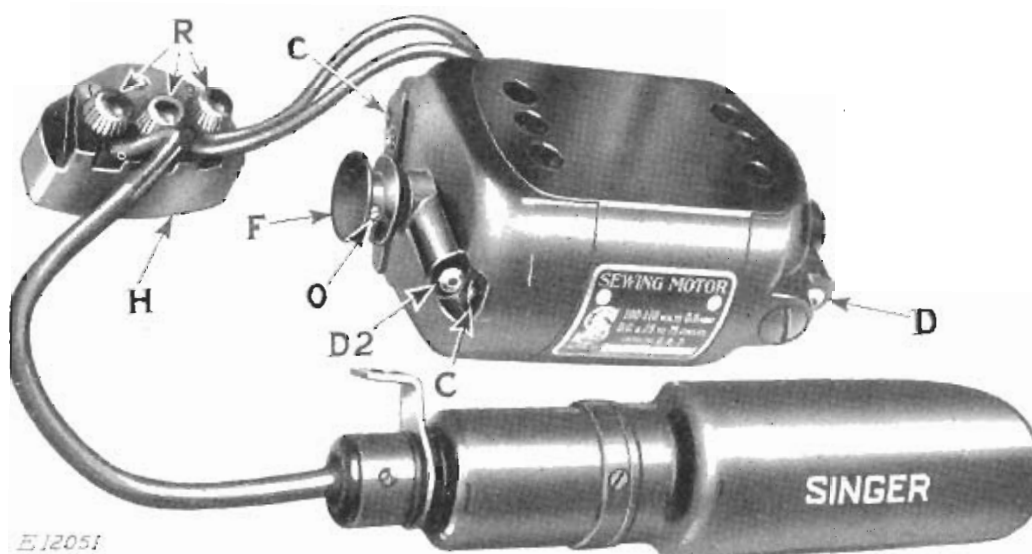
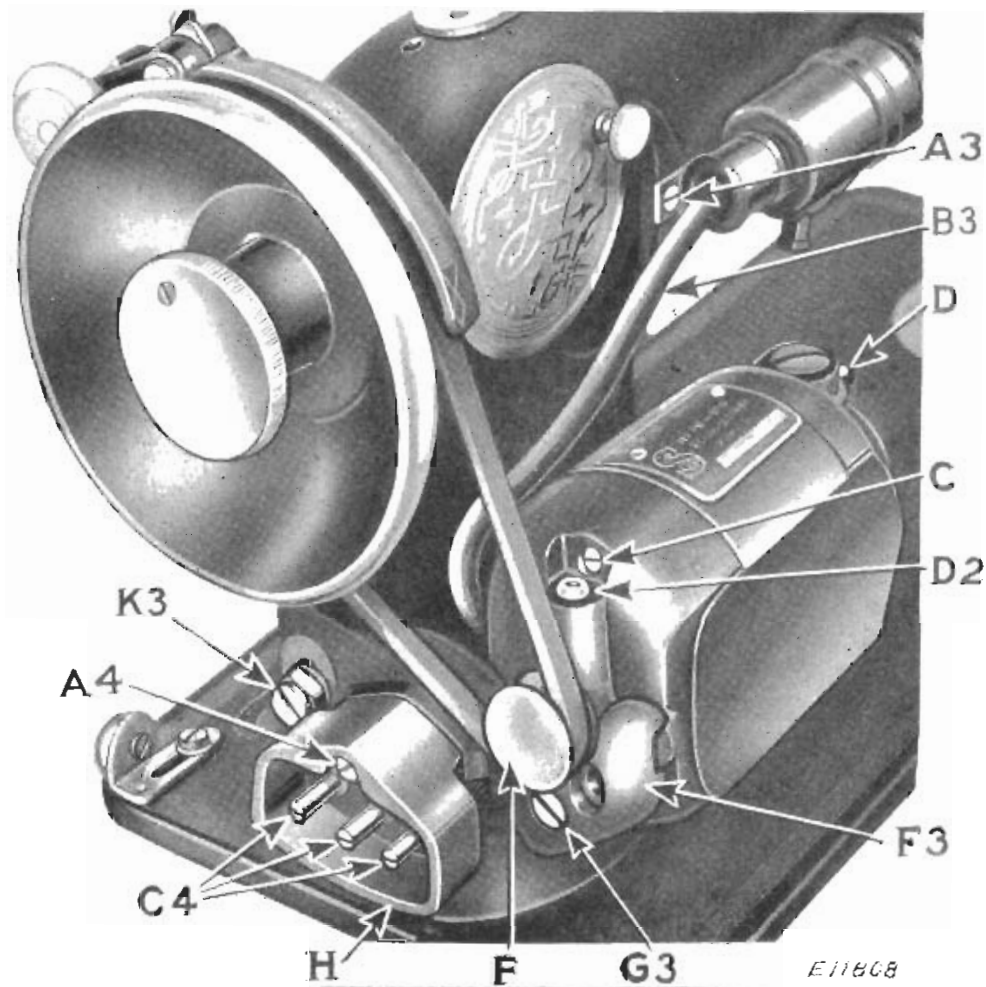
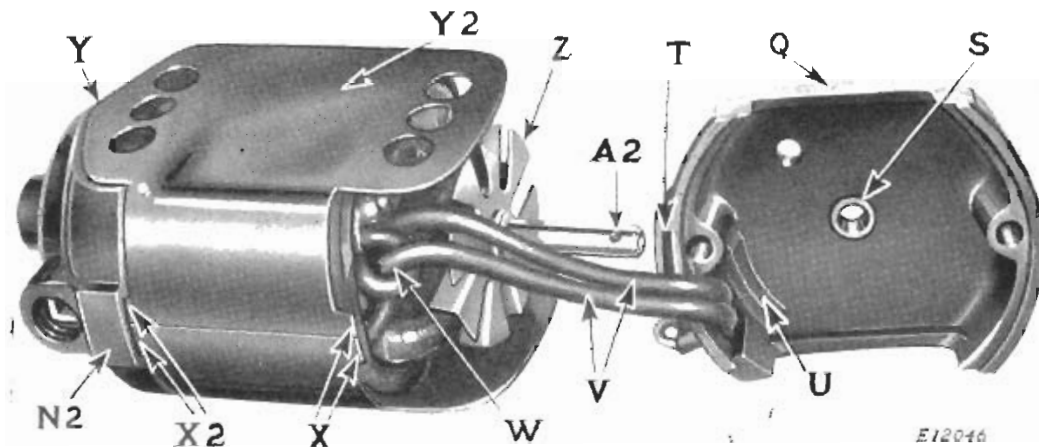
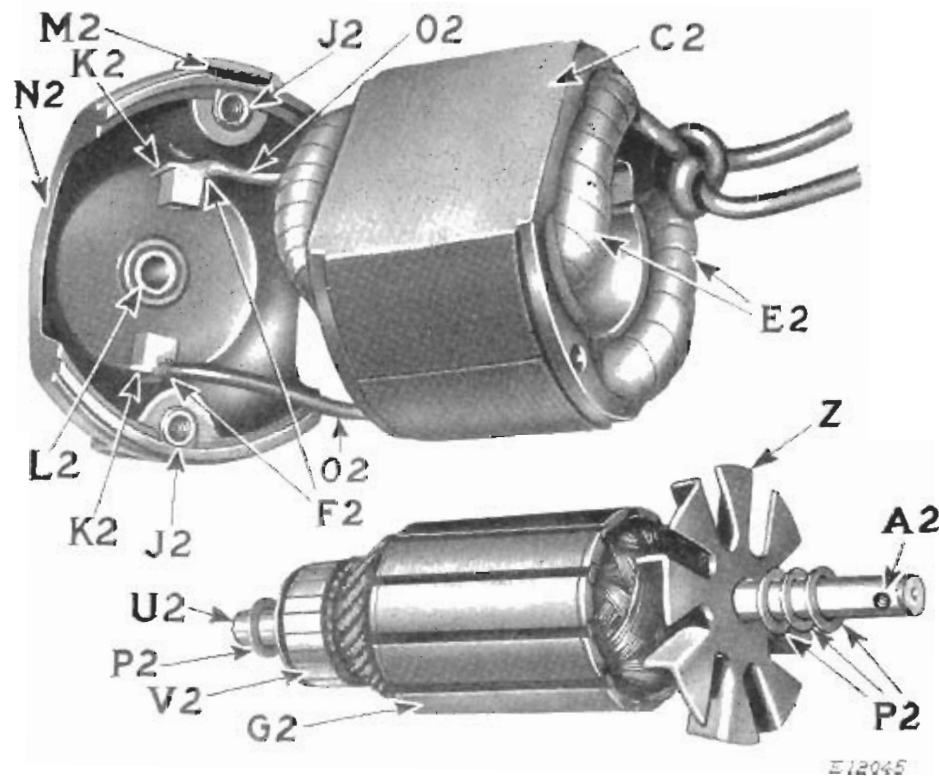

FIG. 20. MOTOR THREE-PIN TERMINAL AND SINGERLIGHT
FIG. 22. MOTOR SINGERLIGHT AND THREE-PIN TERMINAL IN PLACE ON MACHINE 201-3
FIG. 23. MOTOR --PULLEY END COVER-REMOVED
FIG. 24. MOTOR—PULLEY END COVER, COMMUTATOR END COVER AND ARMATURE REMOVED
The motor, three-pin terminal and Singerlight may be removed as a unit, as shown by Fig. 20, as a matter of convenience when
inspecting electrical connections. Take out screw (A4, Fig. 22) and remove the three-pin terminal from its seat on the motor bracket. Disconnect the controller leads from terminals Nos. 1 and 2, and turn aside the arm side cover to expose screw (A3, Fig. 22) which fastens the Singerlight to the sewing machine. Remove screw (A3, Fig. 22) and Singerlight.
Take out screw (G3, Fig. 22) which fastens the motor to its bracket (F3, Fig. 22) and remove the motor.
Remove Pulley. Take out screw (O, Fig. 20) and remove the pulley (F, Fig. 20) from the armature shaft.
Remove Pulley End Cover—Machine 201-3. Remove the two through screws (C, Figs. 20 and 22) —only the upper of the
two screws (C) is shown in Fig. 22, the lower one being concealed by the motor bracket. Carefully take the pulley end cover (Q, Fig. 23) off the field core (C2, Fig. 24), drawing it to the ends of the motor leads (V) as shown in Fig. 23. **Do not pry it off, as such action would ruin this Bakelite cover.**
Remove Brushes—Machine 201-3. Take out the two screw caps (Z2, Fig. 25). When the screw caps are removed, the brush springs may protrude from the screw holes and the brushes can then be easily withdrawn. In case the brushes stick in the brush tubes, they can be conveniently removed after removal of the armature (G2, Fig. 24). See "Remove Armature" following. It is advisable to mark the brushes at (B1 and B2, Fig. 25) to insure their being replaced in the same relative position as before removal.
If the wiring is not damaged, clean the commutator (V2, Fig. 24) with a dry, clean cloth before assembling the motor. If it is impossible to get the commutator bright by this means, use an ordinary rubber eraser. **Never use anything else on a small motor commutator.**
Remove Field Core Shield—Machine 201-3. With the pulley end cover removed, the field core shield (Y2, Fig. 23) is removed from the pulley end of the motor.
Fig. 24). With the pulley end cover, armature, core shield and brushes removed, the commutator end cover (N2) should come off very easily. An uncontrolled strong pull or jerk would strain or break the field leads soldered connections (F2) at the brush tubes.
Inspect Wire Connections to Brush Tubes—Machine 201-3. Examine both field lead connections (F2, Fig. 24) at brush tubes. If there are any loose strands of wire, they should be cut off. Make certain that the field leads (O2, Fig. 24) are firmly attached
(clamped and soldered) to the brush tube terminals (K2, Fig. 24) and that the terminals (K2) are firmly soldered to the brush tubes as shown in Fig. 24.
Replace Commutator End Cover. Put the commutator end cover (N2, Fig. 24) in place on the field core (C2, Fig. 24). To make sure that the field leads (O2, Fig. 24) are safely positioned after the commutator end cover is in place on the field core, observe the field leads from the pulley end of the motor with pulley end cover (Q, Fig. 23) and armature (G2, Fig. 24) removed. If the wires are not properly placed (to avoid contact with the armature or commutator) they can be reached through the field coils (E2, Fig. 24) with pulley end cover and armature removed.
Replace Field Core Shield—Machine 201-3. Put the shield (Y2, Fig. 23) on the field core (C2, Fig. 24) with peaked end (Y) of the shield toward commutator end cover (N2) and with the two lugs (X2, Fig. 23) in the slot (M2, Fig. 24) in the commutator end cover (N2).
Replace Armature—Machine 201-3. When the armature shaft was withdrawn from its bearing (L2, Fig. 24) in the commutator end cover, the spring pressured grease wick projected into the shaft bearing (L2). To avoid damage to the grease wick and binding of the armature shaft, the grease wick must be pushed back into the grease wick tube before the armature shaft is reinserted into its bearing in the commutator end cover. Use a small screw driver to push the grease wick back into the grease tube (D, Figs. 20 and 22) while inserting the end (U2) of the armature shaft into the bearing (L2) in the commutator end cover.
Replace Pulley End Cover—Machine 201-3. Push the grease wick up into the grease tube (D2, Figs. 20 and 22) in the pulley end cover (Q, Fig. 23), using the method suggested under "Replace Armature" at the bottom of the preceding page. Be sure that the washers (P2, Fig. 24) are on the armature shaft. Put the pulley end cover (Q, Fig. 23) on the field core (C2, Fig. 24) and see that the lugs (X, Fig. 23) of the shield (Y2) enter the slot (T) for the same in the pulley end cover. Pull on the motor leads (V, Fig. 23) to make certain that the knot (W) is held by the projection (U) on the inside of the pulley end cover, otherwise the motor leads will be in the way of the fan (Z) on the pulley end of the armature shaft. Insert and tighten the two through screws (C, Figs. 20 and 22) alternately and a little at a time, and make sure that the end covers (Q) and (N2) are solidly and accurately seated on the field core (C2) to insure perfect alignment of the armature shaft bearings (S) and (L2). Otherwise the armature will not rotate freely. Turn the shaft with the fingers to ascertain that it revolves freely.
Replace Pulley—Machine 201-3. Put the pulley (F, Figs. 20 and 22) on the armature shaft, with the screw hole in the pulley aligned with the screw hole (A2, Figs. 23 and 24) in the shaft. Insert screw (O, Fig. 20) and turn it all the way in.
Attach the motor to the motor bracket (F3, Fig. 22) so that the lower screw hole in the pulley end cover is at the lower hole (G3, Fig. 22) in the motor bracket, and insert and tighten the screw (G3, Fig. 22). Pass the motor leads (V, Fig. 23) beneath the motor bracket (F3, Fig. 22) and attach the motor lead without identification tubing to pin No. 2, and the lead with the red identification tubing to pin No. 3 of the three-pin terminal.
Fasten the Singerlight bracket, with Singerlight, to the machine arm by means of screw (A3, Fig. 22), and pass the Singerlight leads (B3, Fig. 22) down between the pulley end of the motor and the balance wheel end of the machine, and beneath the motor bracket (F3, Fig. 22). Fasten the lead with the yellow identification tubing to pin No. 1, and the lead with the red identification tubing to pin No. 3 of the three-pin terminal. Each of the three pins of the three-pin terminal (H, Fig. 22) is provided with a washer. Make sure that these washers are placed above the wire or wires, then firmly tighten the thumb nuts (R, Fig. 20).
Attach the three-pin terminal (H, Fig. 22) to its seat on the motor bracket (F3, Fig. 22) by means of the screw (A4, Fig. 22).
Adjust Belt Tension—Machine 201-3. Loosen screw (K3, Fig. 22), which fastens the motor bracket (F3, Fig. 22) to the sewing machine, sufficiently to permit the placing of the belt in its groove on the balance wheel of the machine and on the motor pulley. With the belt in place on the balance wheel and motor pulley, move the motor bracket (F3, Fig. 22), with motor attached, up or down on its seat on the machine until correct belt tension is obtained, then firmly tighten screw (K3, Fig. 22). Tension should be just sufficient to drive the sewing machine without belt slippage.
To Lubricate the Motor—Machine 201-3. Insert the tip of the motor lubricant tube in the hole in the grease tubes (D and D2, Figs. 20 and 22) and squeeze in a quantity of lubricant sufficient to fill the grease tubes.